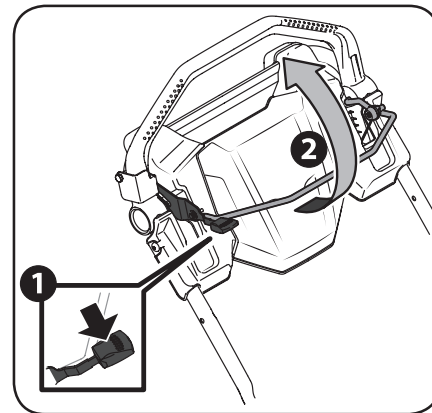

Figure 3-4
1. Once the engine is running, press down on the lockout lever. See Figure 3-4.
2. Pull the blade control back against the drive control. See Figure 3-4.